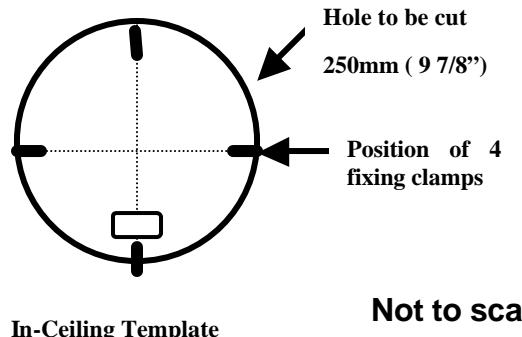

Fig 1
1. Use template to locate position of cut out. Fig 1. The adhesive backing allows for repositioning a number of times.